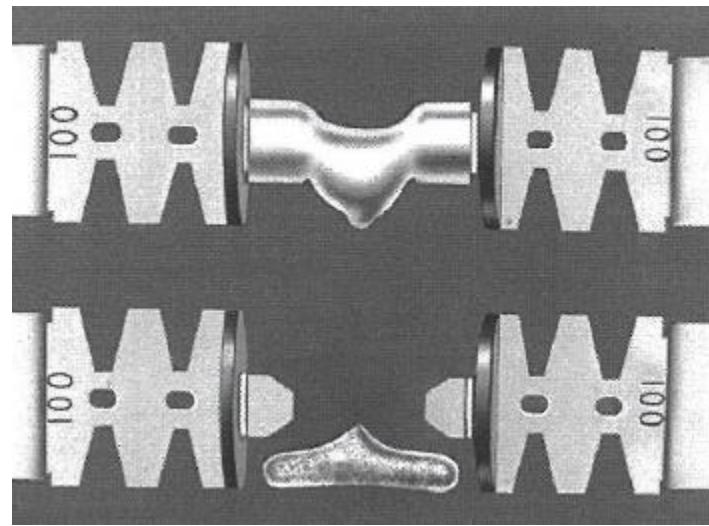

Figure 5.6: Action of a Dual-Element Fuse
- 5-11 The alloy used in the overload element melts at less than half the temperature increase required to melt the zinc links. Both excess current and a specific time period are required for this element to reach its melting point. If an overload persists, or if the magnitude of the overload increases, the alloy melts instantly without passing through a half-melted state. The alloy retains its shape and strength up to the point of becoming liquid. This action is shown in Figure 5.6.